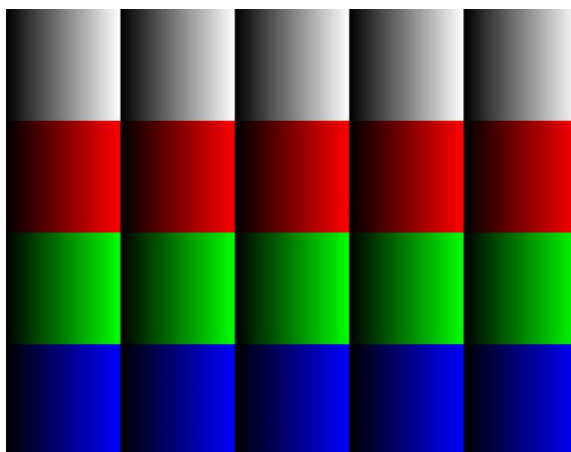

Figure 15 – Horizontal color pattern
1. Horizontal color ramp – horizontal gradient of several color stripes, as shown in Figure 15.